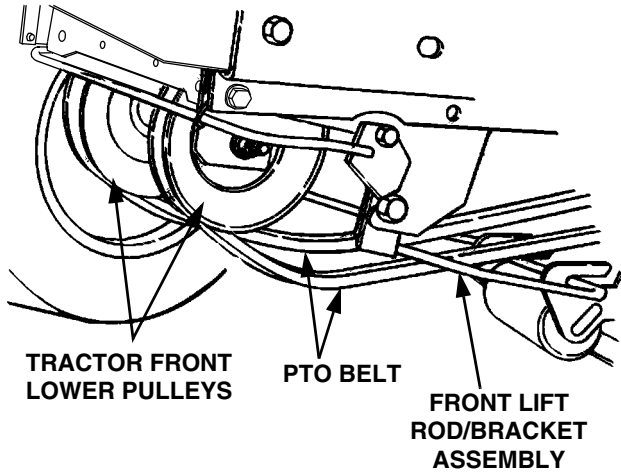

Figure 51
11. Pass the PTO belt downward, inside the tractor frame, until the belt is below the two tractor front lower pulleys. Twist the two sides of the PTO belt 1/4 turn inward to engage the narrow sides of the belt into the grooves of the two tractor front-lower pulleys (See Figure 51).